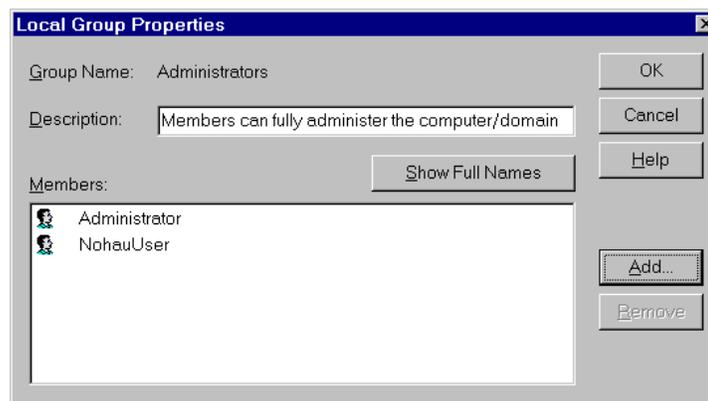

Figure 9. Local Group Properties Dialog Box for Windows NT
3. In the bottom half of the dialog box, double-click **Administrators**. The **Local Group Properties** dialog box opens displaying a list of login names (Figure 9).